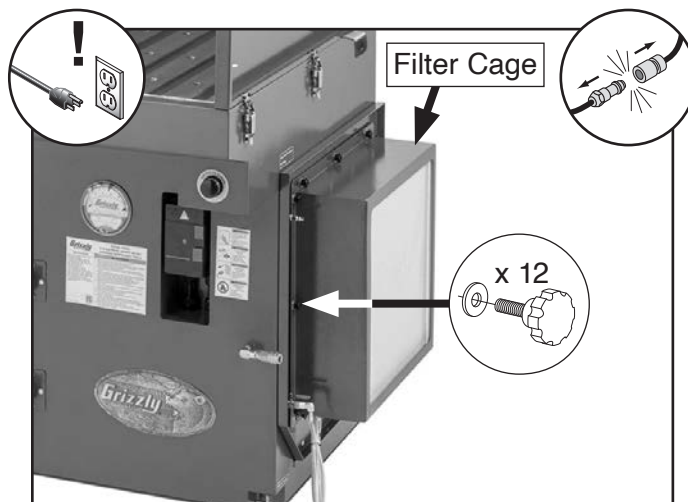

Figure 56. Location of filter cage and fasteners.
3. Remove (12) knob bolts and fender washers shown in **Figure 56** to remove filter cage.